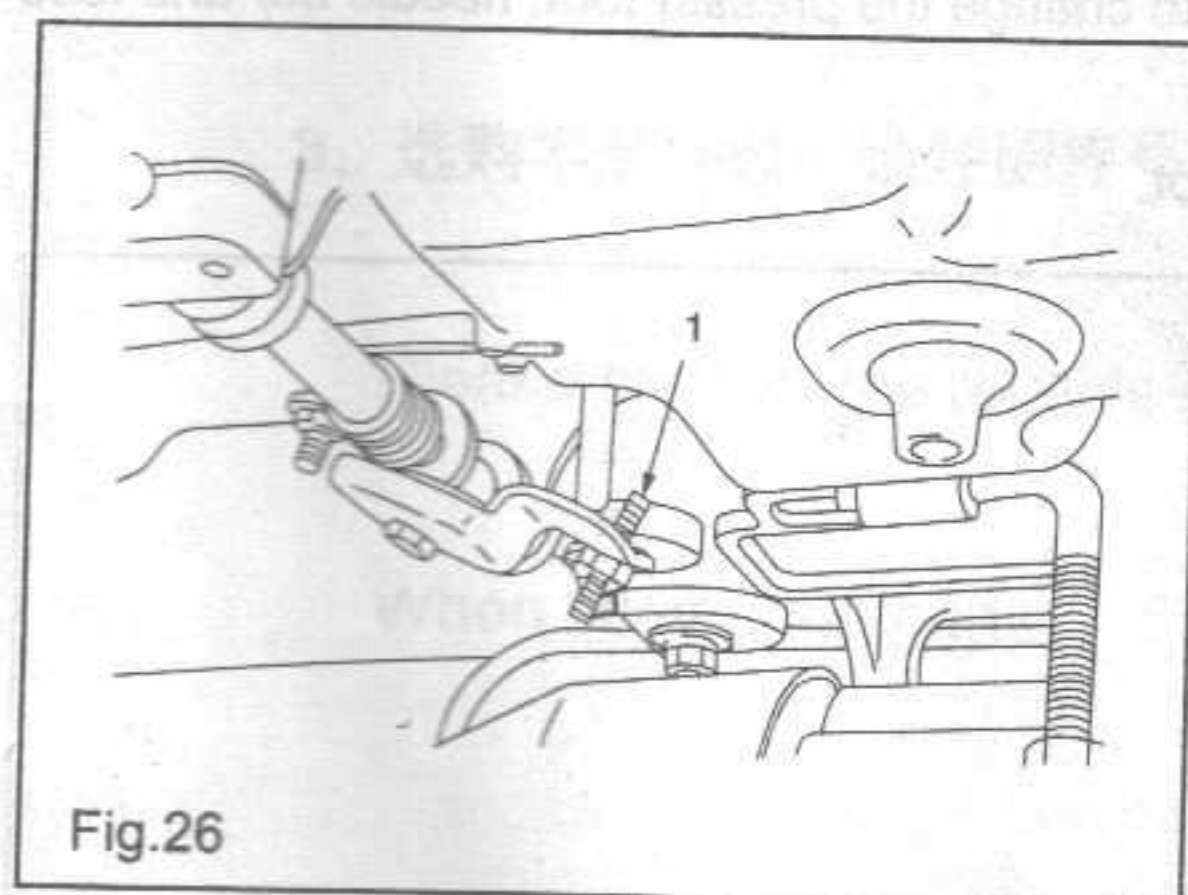

Fig.26
18. ADJUSTING THE HEIGHT OF THE KNEE LIFTER (Fig.26,27)